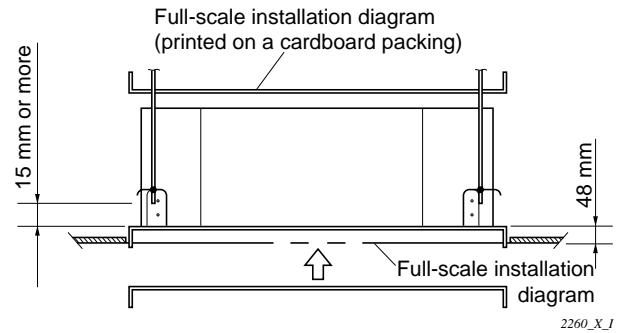

Fig. 2-4
- (1) When placing the unit inside the ceiling, determine the pitch of the suspension bolts using the supplied full-scale installation diagram. (Fig. 2-4) The size of the opening for the indoor unit can be confirmed by attaching the full-scale installation diagram beneath the unit. (Fig. 2-4) Tubing and wiring must be laid inside the ceiling when suspending the unit. If the ceiling is already constructed, lay the tubing and wiring into position for connection to the unit before placing the unit inside the ceiling.
- (2) The length of suspension bolt must be appropriate for a distance between the bottom of the bolt and the bottom of the ceiling of 15 mm or more as shown in Fig. 2-4.
- (4) Remove the protective cardboard used to protect the fan parts during transport.
- (5) Adjust the distance between the unit and surface of the ceiling. (48 mm) (Fig. 2-4)